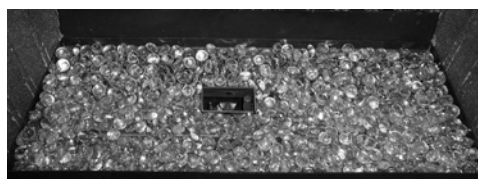

Figure 60: Glass Beads in Place.
6. Pour the glass beads into the tray and evenly distribute over the entire tray (See Figure 60).